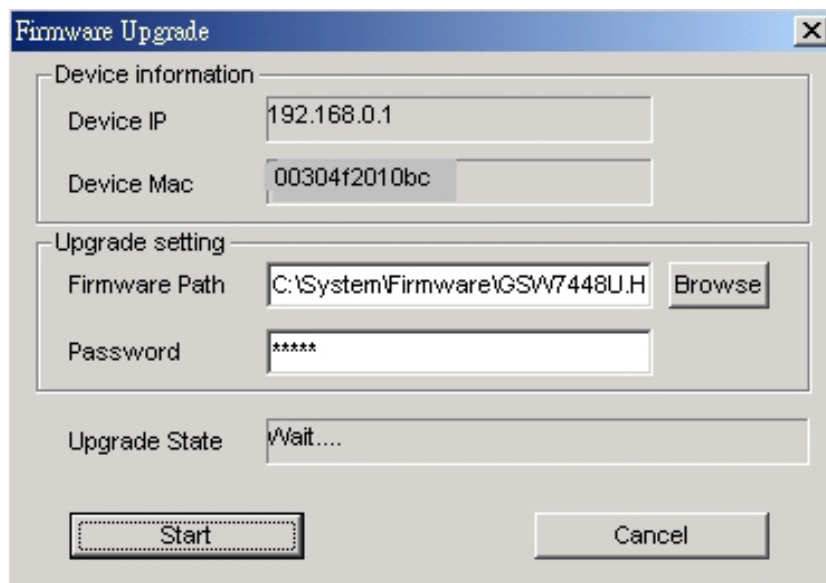

Figure 3-20 Firmware Upgrade process screen
Step 2: Please input the correct password and click “Start” button to start replacing the latest Firmware revision. The screen in **Figure 3-20 & 3-21** appears.